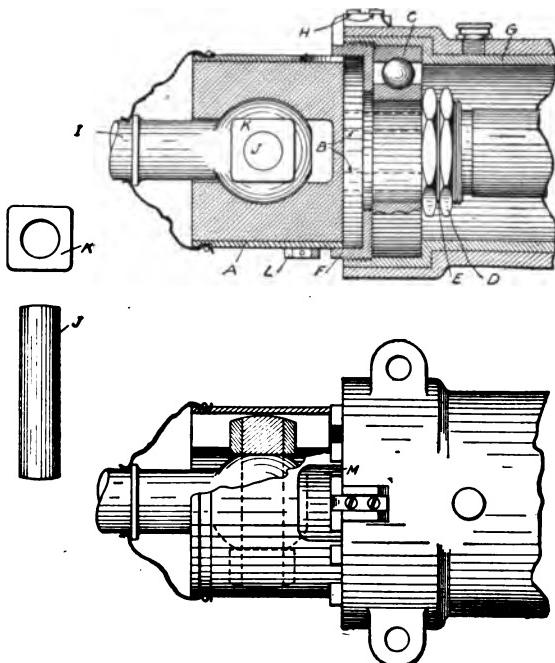

Fig. 111. Details of Universal Joint in National Car.
**Universal Joints.** Fig. 111 shows in detail the construction of a universal joint as used by the National Motor Vehicle Company, Indianapolis, Ind. This joint is located immediately in rear of the transmission gear case, the main steel portion *A* being attached to the shaft of the transmission by the two keys *B*, indicated by dotted lines.